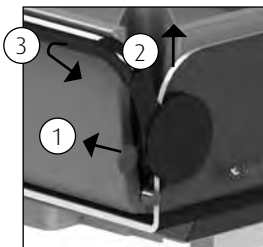

Figure 2: Side bar Sirocco
- *Wall mounted stretcher / dressing table:* Unlock the safeguard by using one hand to pull the protruding lip / button (1) outwards and raising the side-bar with your other hand. (See Figures 2 and 3).